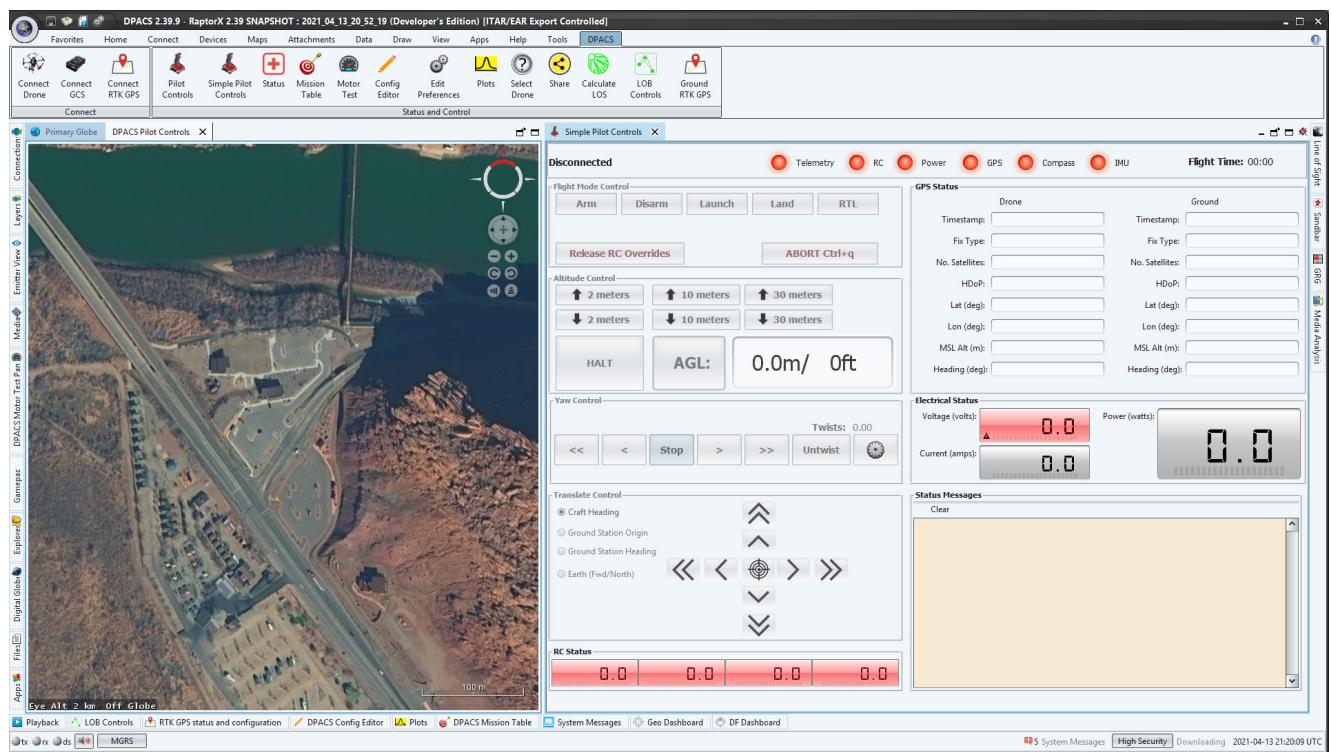

Figure 2 - Initial DPACS display showing the DPACS toolbar, Globe and Simple Pilot Control Panel
5. The “Simple Pilot Controls” and Globe panels should automatically appear expanded as shown in Figure 2. Other panels can be accessed from the DPACS toolbar. The “Simple Pilot